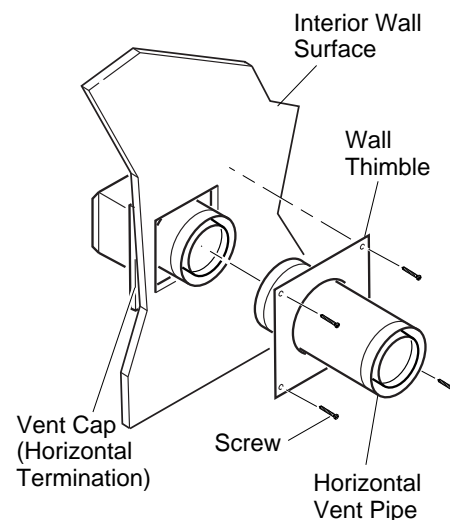

Figure 16 - Connecting Vent Cap with Horizontal Vent Pipe
5. Slide the wall thimble over the vent pipe before connecting the horizontal run to the vent cap (see Figure 16).
7. Slide the wall thimble against the interior wall surface and attach with screws provided (see Figure 16).